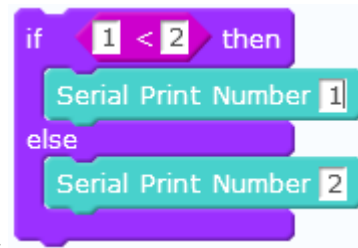

Figure 1-6-2
- 2) The main function of building blocks of numeric and logical operation types is to do mathematical operation as a condition of judgment, and to compare the size and logical judgment with, or with, or without, as shown in Figure 1-6-2.